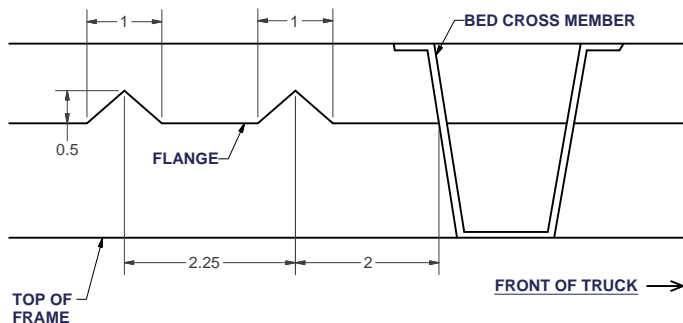

FIGURE 1
- 3) Before installing the rear cross member, there must be two small notches cut in the bed floor flange behind the center bed cross arm on the passenger side as shown in **Figure 1**. At 2" behind the center cross member, make the first V-shaped notch in the bed floor flange. The second notch will need to be 2 1/4" behind the first. After cutting the notches, the rear cross arm can be installed using the two notches to accept the legs of the cross arms. The rear cross arm is identified as the 2" x 2" angle with two cut-outs. Slide the angle across the top of the frame using the two notches that were cut earlier in the bed flange. Rotate the cross arm so that the notches are pointing up against the bed floor and towards the front of the truck. The holes in the cross arm should now be resting on the truck frame and facing the rear of the truck. At this time install the pin brackets. It is necessary to ream the existing holes in the frame slightly, prior to installing the pin brackets. When they are installed correctly, the pin will be in the hole on the inside of the frame and the bolt holes will face up and forward and align with the two outside holes on each end of the rear cross member. Place a 1/2" x 1 1/2" bolt with a washer in the four holes that bolt the pin brackets to the rear cross arm and **finger tight only** with 1/2" flange nuts.